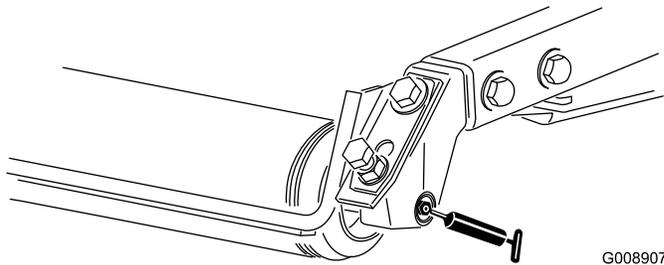

Figure 33
- Rear roller bearings (2 per cutting unit) (Figure 33)